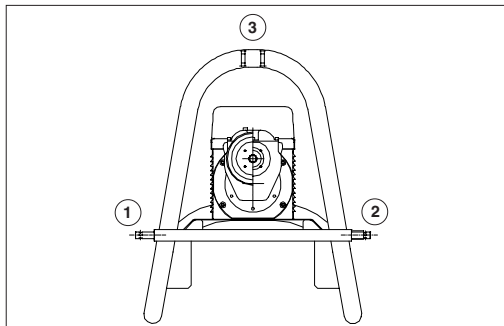

fig. 2
- c) the three links (fig.2) are perfectly fastened and locked with the accessories provided. **If wrongly anchored the machine could tip over causing a severe hazard for the operator.**